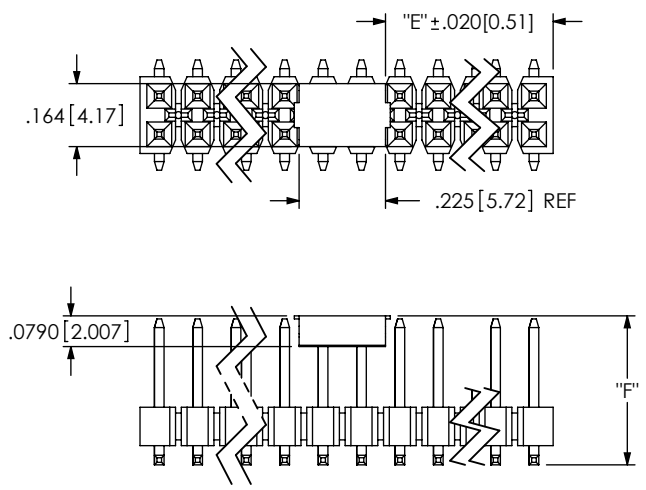

FIG 5
- *-M: METAL PICK AND PLACE PAD (USE LMP-01, SEE FIG 5, SHT 2) (NOT RECOMMENDED WITH -T OR -TM PLATING) (LEAD STYLES -01 & -04 ONLY) (AVAILABLE ON POS 04 THRU 36) (AVAILABLE ON POS 02 AND 03 WITH -TR OPTION ONLY, SEE NOTE 5)